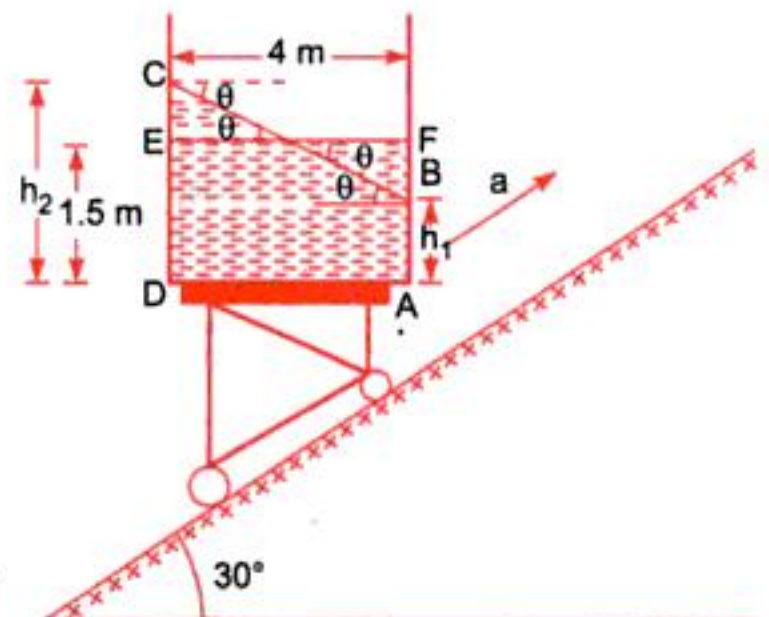

Fig. 3.53
**Problem 3.38** A tank contains water upto a depth of 1.5 m. The length and width of the tank are 4 m and 2 m respectively. The tank is moving up an inclined plane with a constant acceleration of  $4 \text{ m/s}^2$ . The inclination of the plane with the horizontal is  $30^\circ$  as shown in Fig. 3.53. Find,
When the tank is stationary on the inclined plane, free surface of liquid will be along  $EF$  as shown in Fig. 3.53. But when the tank is moving upward along the inclined plane the free surface of liquid will be along  $BC$ . When the tank containing a liquid is moving up an inclined plane with a constant acceleration, the angle made by the free surface of the liquid with the horizontal is given by